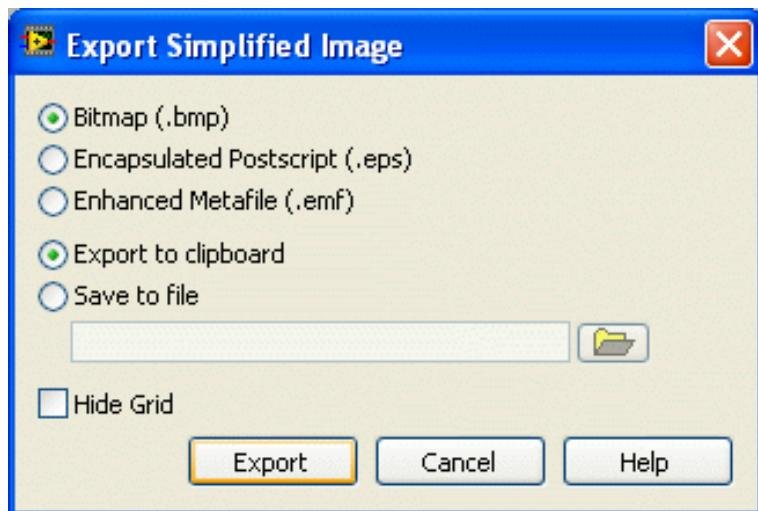

Figure 7.14: Export Simplified Image dialog box
2. The dialog box shown in Figure 7.14 opens and gives various image export options. One way is to export the image to the clipboard as a bitmap. This can then be pasted in a graphical software (e.g MS Paint, Irfanview) and saved to a desired format (e.g. gif).